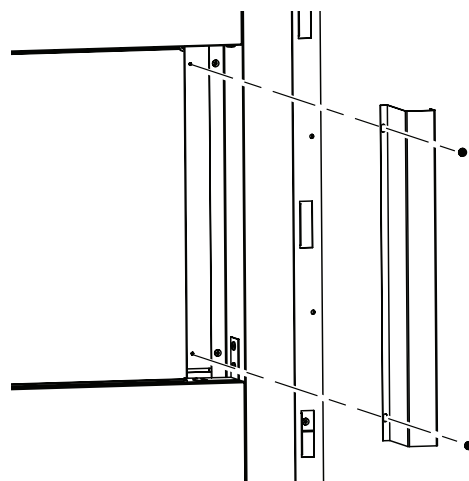

Figure 23 - Installing Side Face Filler for See-Thru Applications
1. Screw side face filler into firebox side baffle using 2 screws on both the left and right side as shown in Figure 23.